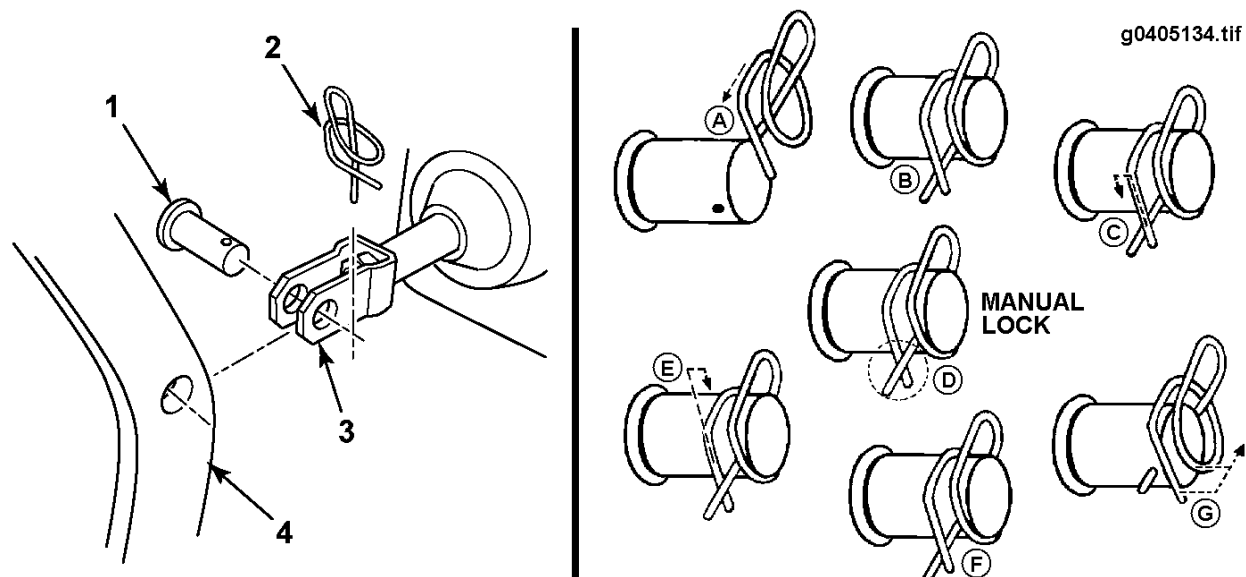

Figure 34 Connecting Master Cylinder Clevis to Brake Pedal Arm
15. Disconnect the MC push rod clevis from the brake pedal by removing the clevis pin and spring retainer/clip. Refer to FIGURE 34.
5. Connect the MC push rod clevis to the pedal assembly using the clevis pin and the spring retainer/clip. Lock the spring retainer/clip. Refer to FIGURE 34 (See Figure 34, page 69).